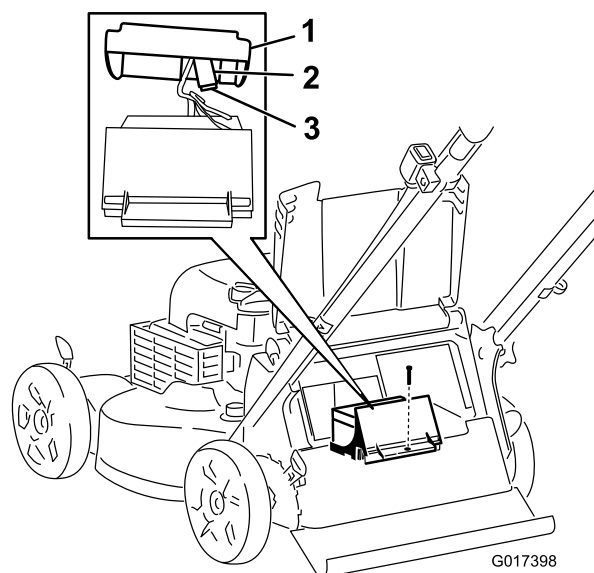

Figure 28
3. Remove the screw that secures the battery compartment, pull out the battery, and locate the fuse (Figure 28).
4. Replace the fuse in the fuse holder (Figure 28).